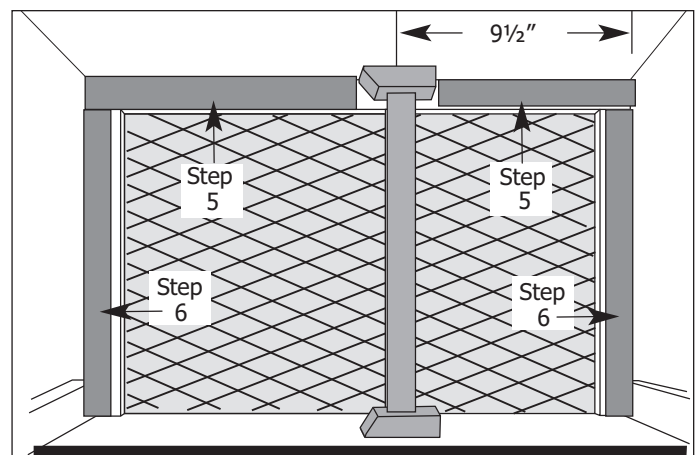

Figure 2-65.
5. Cut to fit (1) 1-1/2" x 1-1/2" x 26-1/2" long seals as shown. (See Figure 2-65)
6. Attach (2) 1-1/2" x 1-1/2" x 14" long seals as shown. Seals should be flush with front portion of the 4-1/2" x 3-1/2" x 1-1/2" foam blocks which holds the plastic divider. (See Figure 2-65)